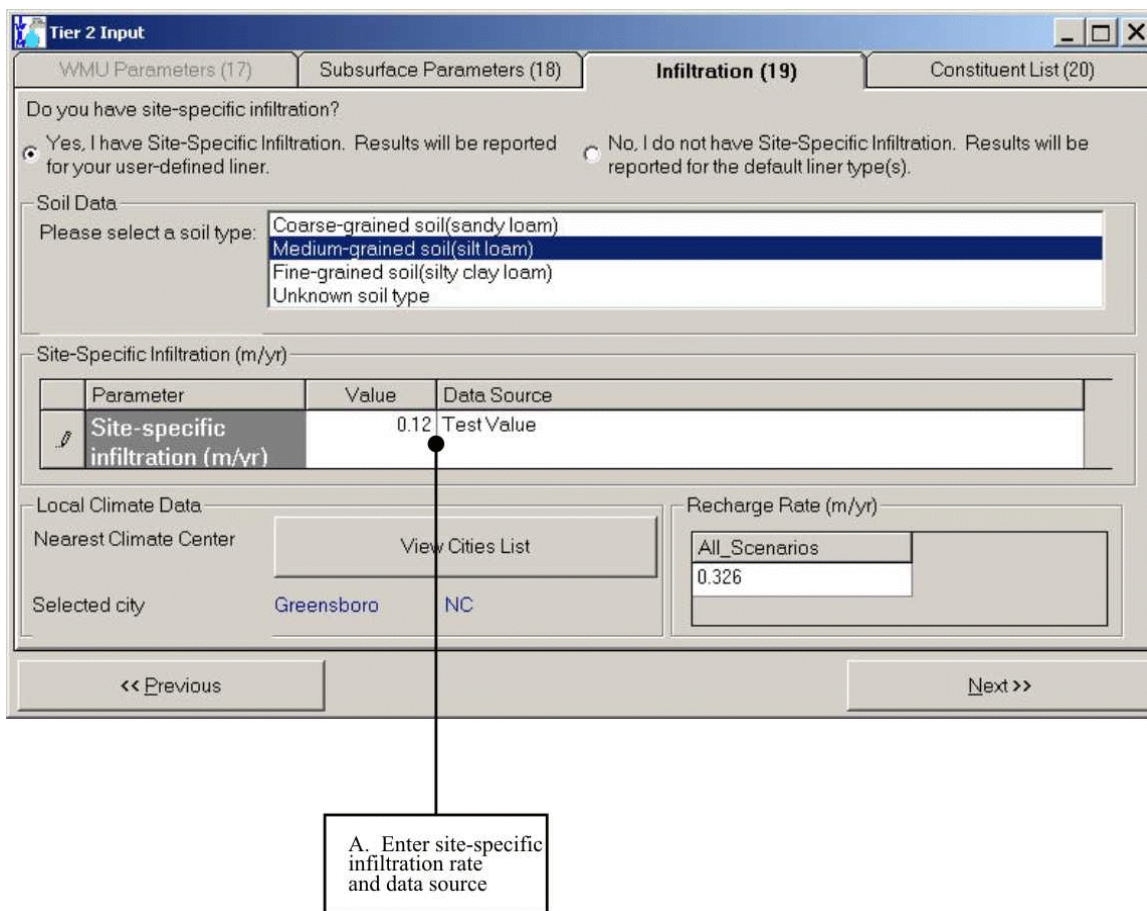

Figure 5.36 Tier 2 Input: Infiltration (19) - Site Specific Infiltration.
If you choose |YES|, the Infiltration Screen will appear as in Figure 5.36 and the Tier 2 evaluation will be performed for your specified WMU infiltration rate. This liner scenario is referred to as a “user-defined liner”. This is the appropriate option to choose if you know the infiltration rate for your particular liner design.
If you choose the |YES, I HAVE SITE-SPECIFIC INFILTRATION| option at the top of the Infiltration (19) screen, then this screen will appear as shown in Figure 5.36.
The features identified in Figure 5.36 are explained in more detail in the following paragraphs.